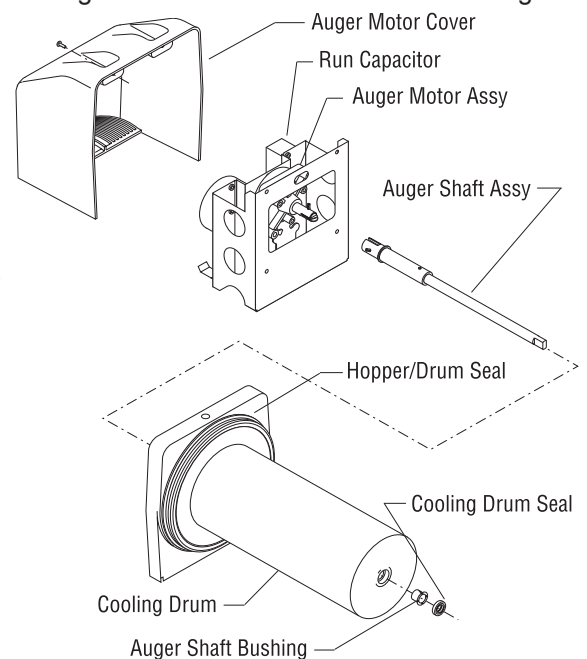

Figure 1
- Refer to Figure 1, and slip new blue bushing into cooling drum.
- Refer to the Installation and Operating Manual for hopper assembly and installation procedures. Install new hopper/drum seals and faucet seals included in the kit. See Figure 1 and 4.